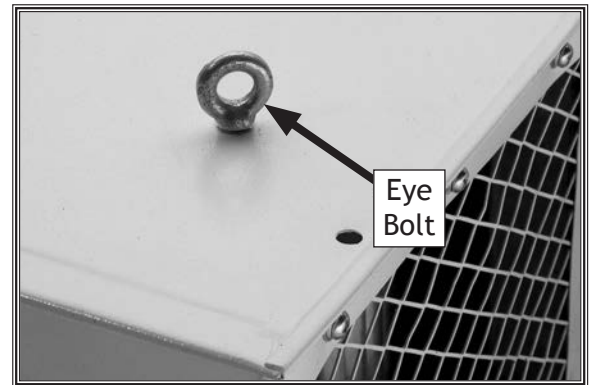

Figure 14. Eye bolt correctly seated.
3. Attach (4) M6-1 x 20 eye bolts to air filter and tighten until snug (see **Figure 14**).
4. With help of an assistant, raise and secure (4) eye bolts to hanging lines.